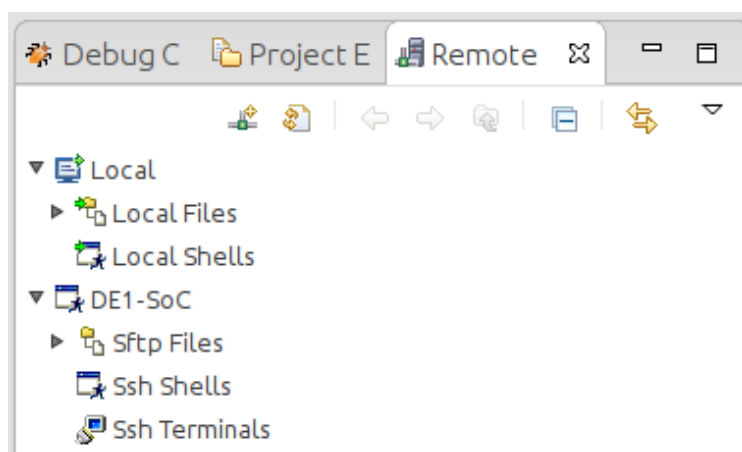

Figure 8-49. New SSH Connection In "Remote Systems" View
18. You should be able to see the remote system in *ARM DS-5*'s "Remote Systems" view, as shown in Figure 8-49.